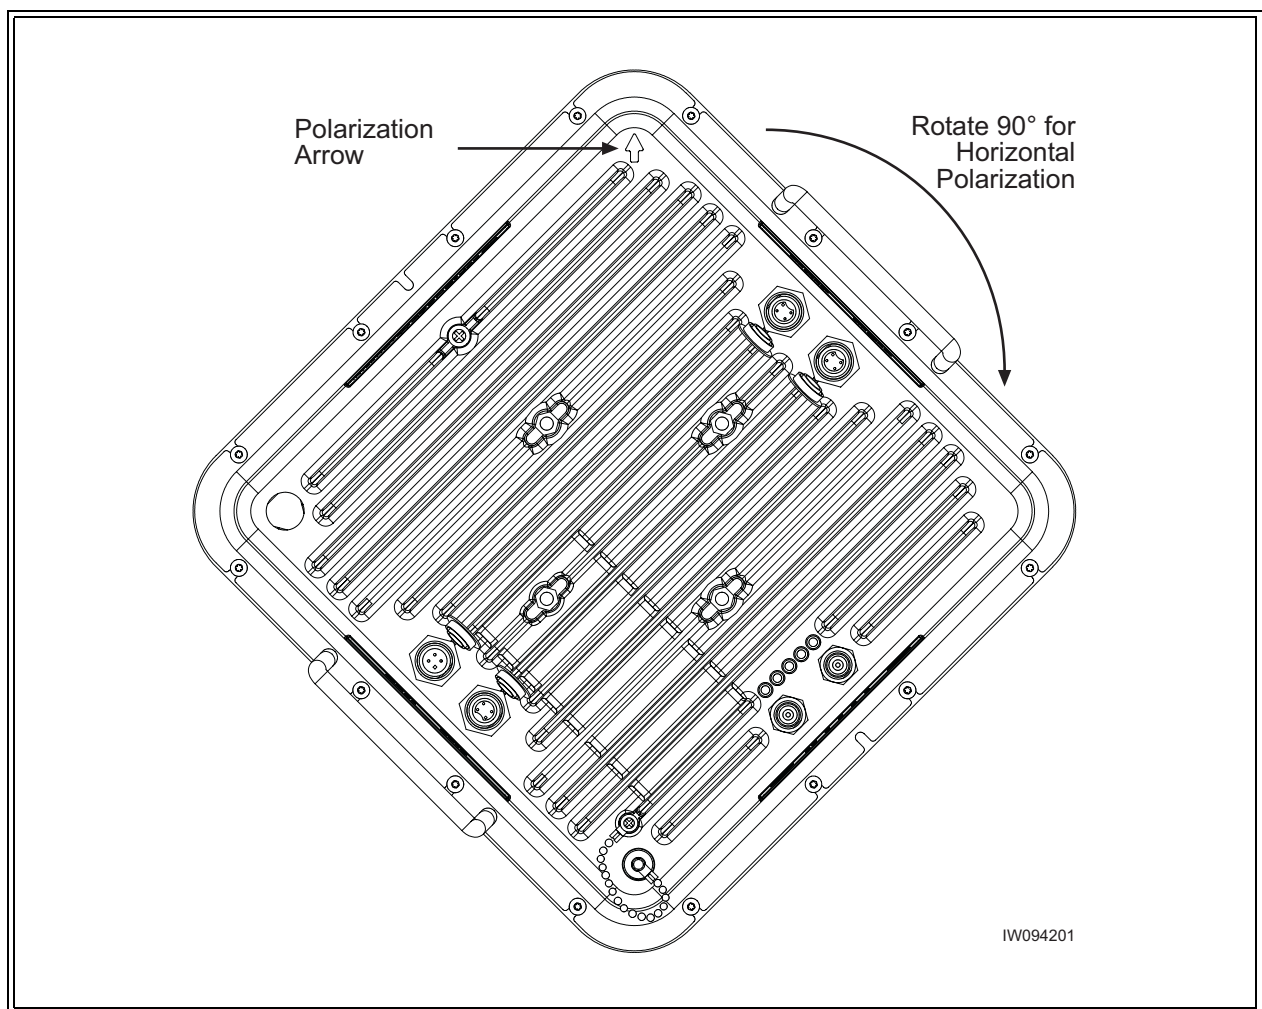
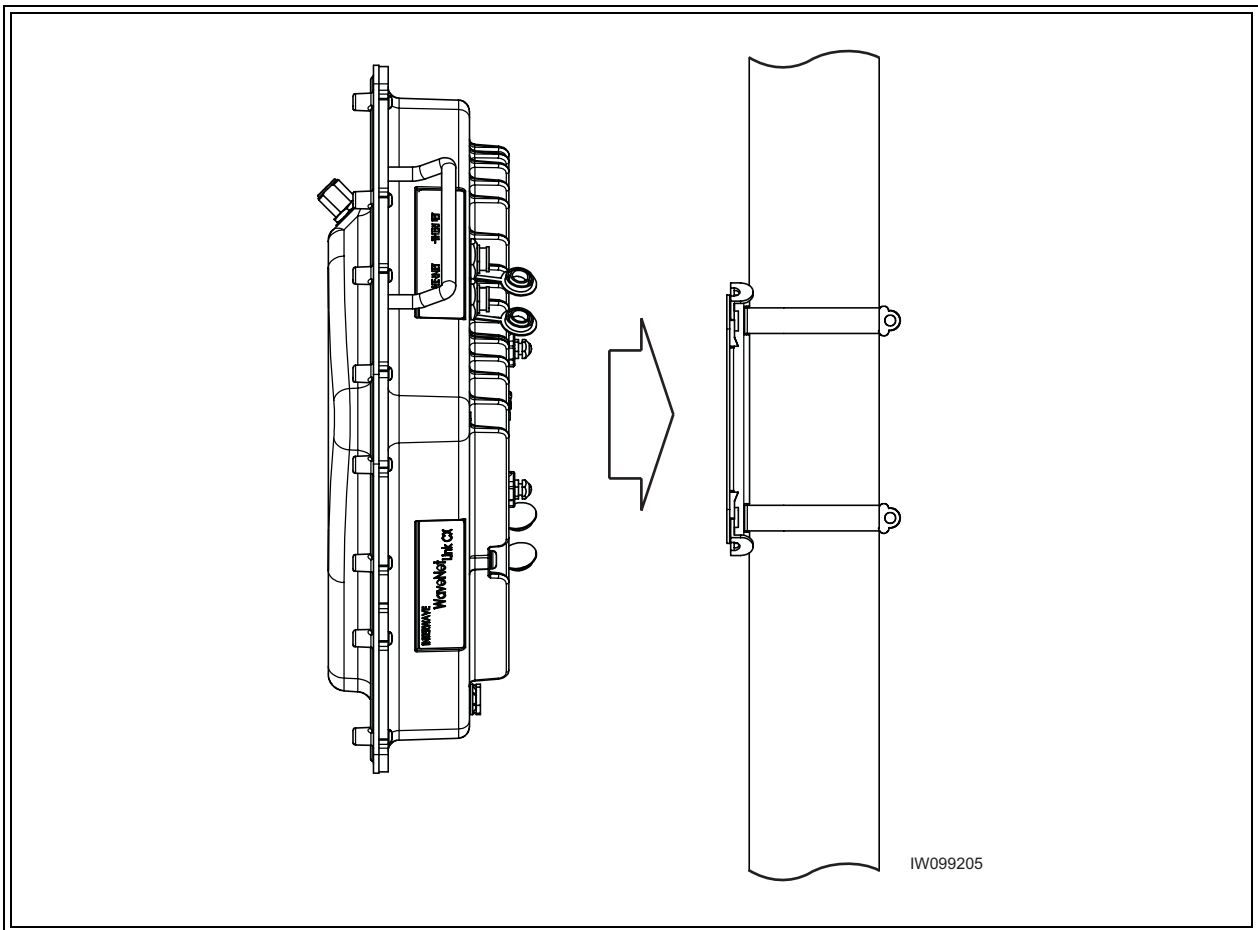
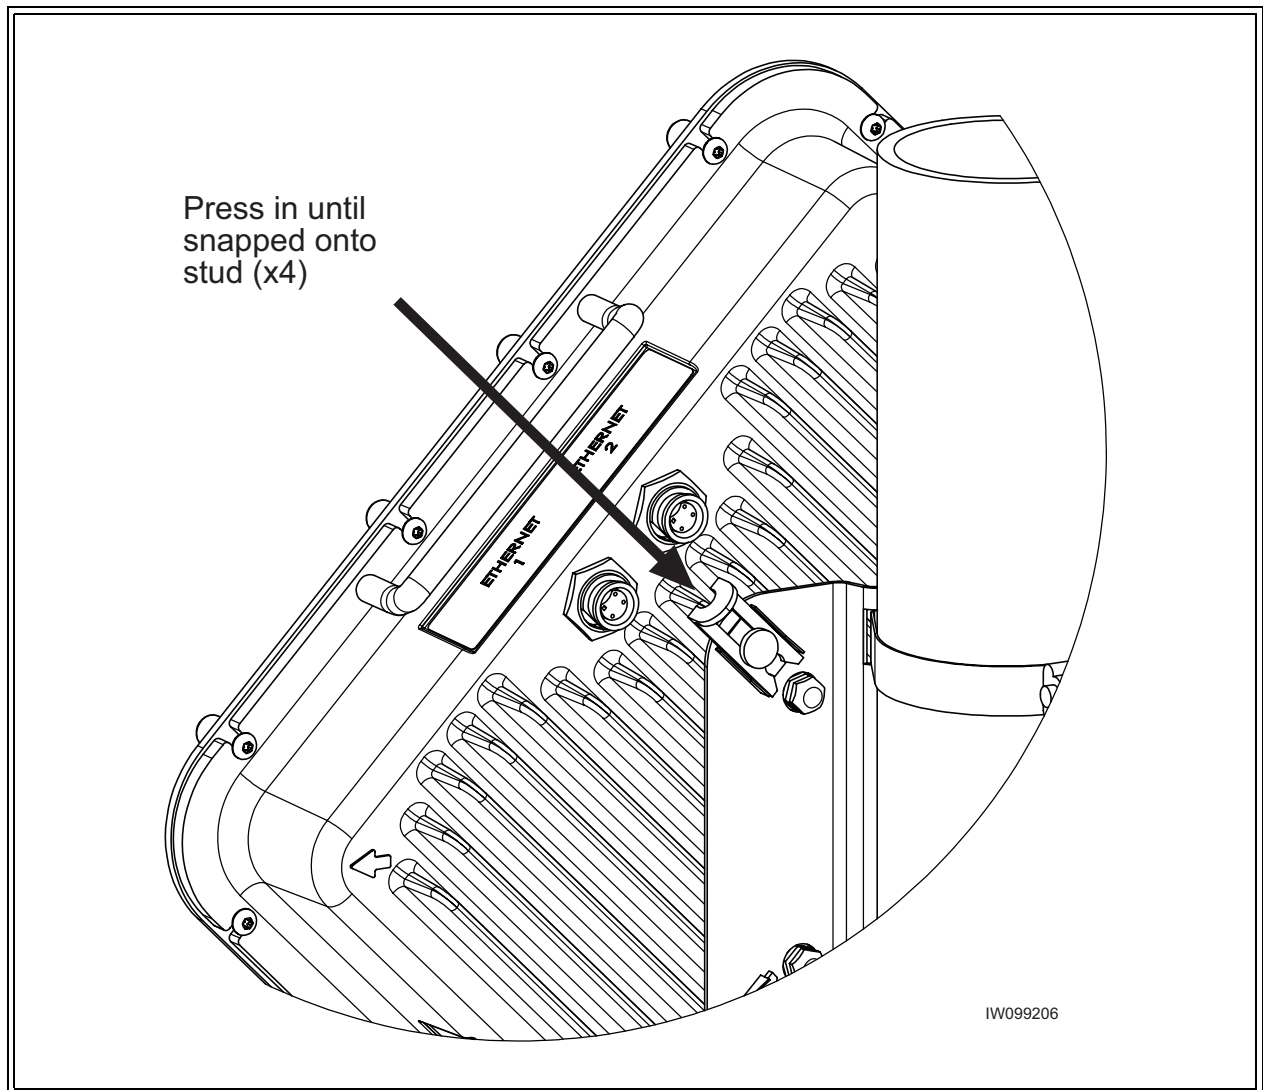

Figure 4-11 Setting the Link CX Polarization -- Vertical Polarization Shown
Figure 4-12 Attaching a 5.8 GHz Link CX to a Typical Mounting Bracket
Figure 4-13 Locking the Slide Clips
- See Figure 4-11. The Link CX case is embossed with an arrow indicating the integral antenna polarization. Point the arrow up for vertical, and sideways for horizontal polarization.
- 26 See Figure 4-11, Figure 4-12 and Figure 4-13.
- 27 Orient the Link CX as shown in Figure 4-11, and align it with the mounting bracket as shown in Figure 4-12. Note that the four mounting studs on the Link CX should line up with the four slide clips on the bracket as shown in Figure 4-13.
- 28 Secure the Link CX to the bracket using the four (4) slide clips on the bracket as shown in Figure 4-13.